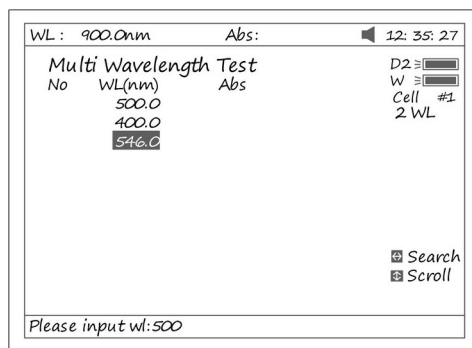

Fig 69
1. Press [F1] to setup a group of wavelengths for testing by pressing the numeric keypad followed by [ENTER]. (M) or (T) to modify the inputted data Fig. 69. Press [ESC/STOP] to finish setup and exit.